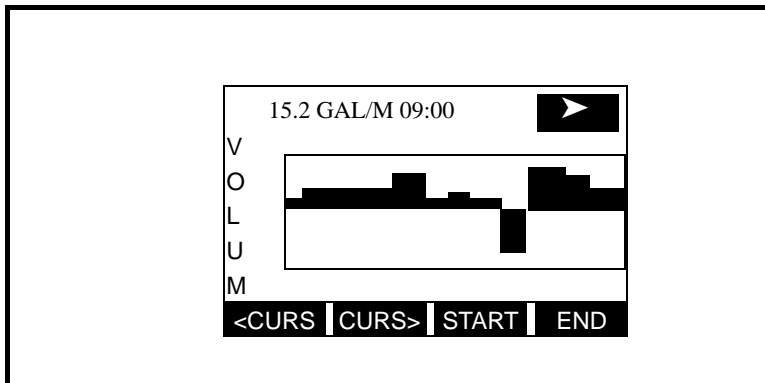

Figure 4-4: Graph Format
- Graph — shows one measurement at a time on an X/Y type line chart (see Figure 4-4 on page 4-9).
The Graph Format enables you to show velocity or volumetric flow on an X and Y line graph at specified time intervals as shown in Figure 4-4 below. The Graph Format is useful for indicating trends and changes in flow measurements. Use the following sections to set up and use the Graph Format.